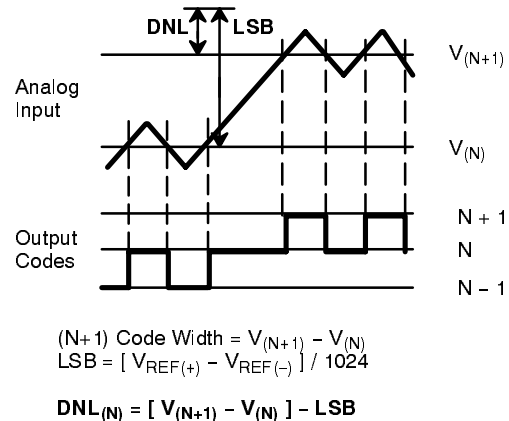
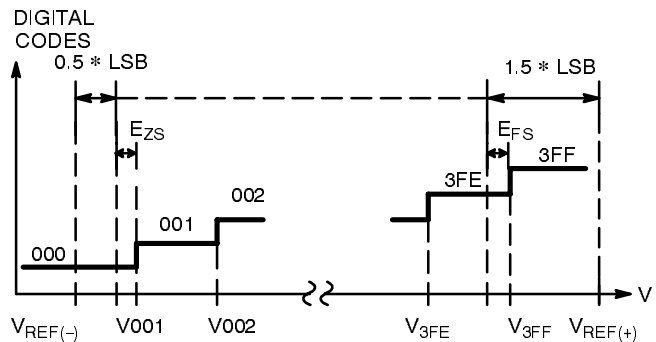
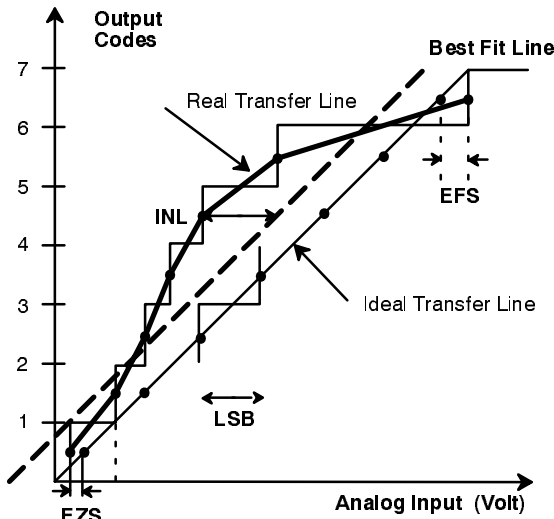

Figure 5. DNL Measurement On Production Tester
Figure 6. Real A/D Transfer Curve
Figure 7. INL Error Calculation
- ² Tester measures code transition voltages by dithering the voltage of the analog input (V_{IN}). The difference between the measured code width and the ideal value (V_{REF}/1024) is the DNL error (see Figure 5 and Figure 6). The INL error is the maximum distance (in LSBs) from the best fit line to any transition voltage (See Figure 7).
Figure 6 shows the zero scale and full scale error terms.
Figure 7 gives a visual definition of the INL error. The chart shows a 3-Bit converter transfer curve with greatly exaggerated DNL errors to show the deviation of the real transfer curve from the ideal one.